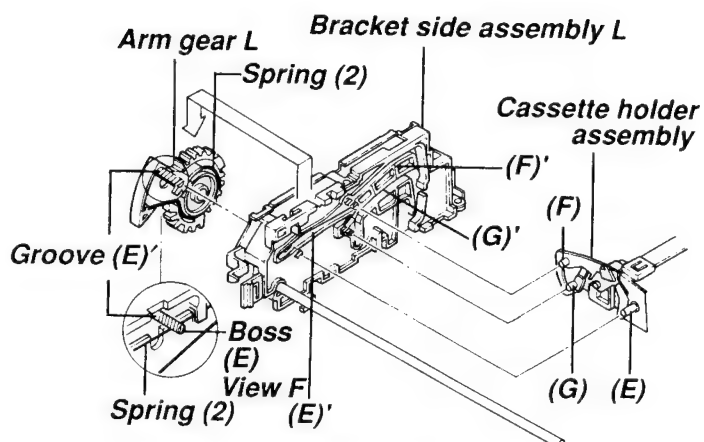

Fig. 4-1-18
- When mounting the bracket side assembly L on the cassette holder assembly, let bosses (E), (F) and (G) of the cassette holder through the grooves on the bracket side assembly L, (E)', (F)' and (G)' respectively. Also pass the boss (E) between the groove (E)" on the arm gear L and spring (2) (upper side). (Refer to Fig. 4-1-18.)